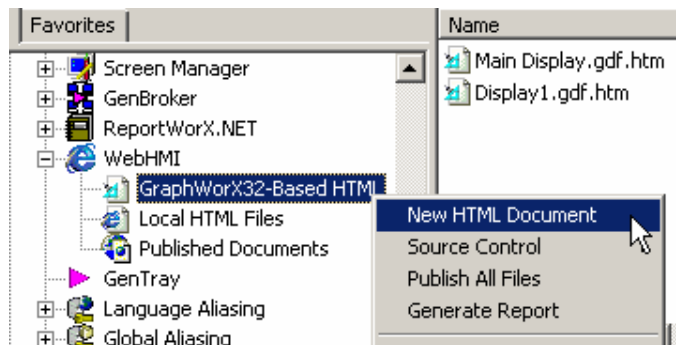

Figure 4.36. Launching the Web Publishing Wizard
1. Right-click on the **Applications/WebHMI/GraphWorX-Based HTML** tree and select **New HTML Document**, as shown in **Figure 4.36**.